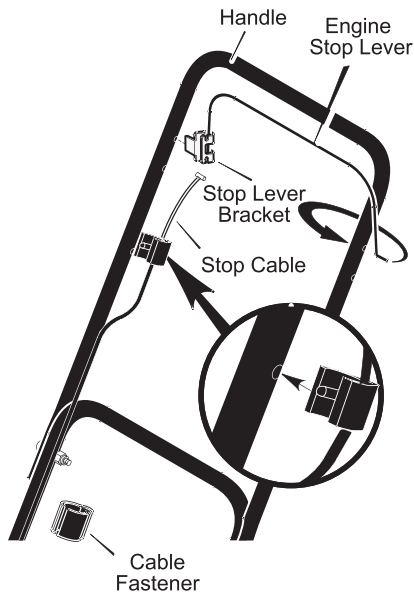

Figure 4
2. Attach the the **stop cable** to the **handle** as shown in Figure 4.